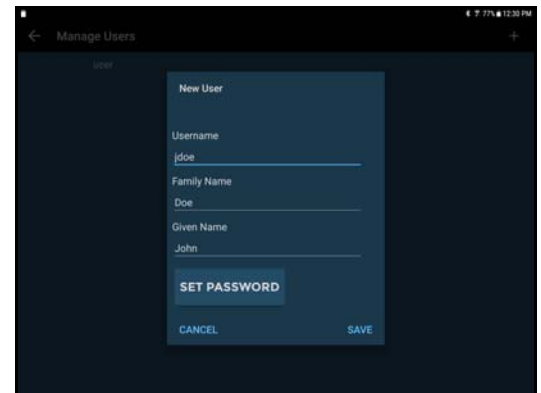

Fig 9.1 Add User
- Enter a Username, Family (Last) name, Given (First) name, and if required set the password (see Fig 9.1).